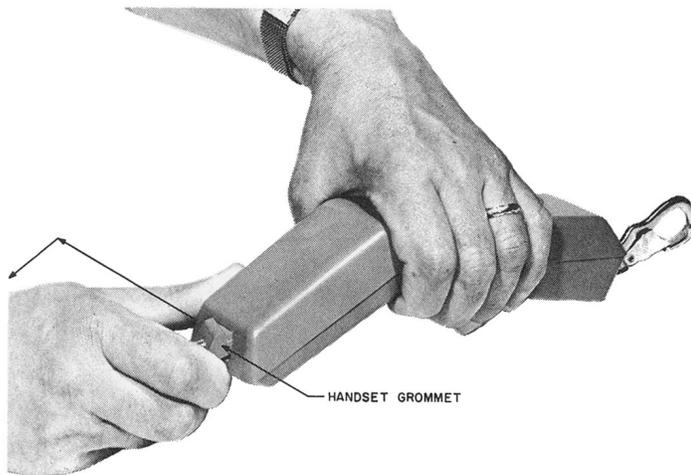
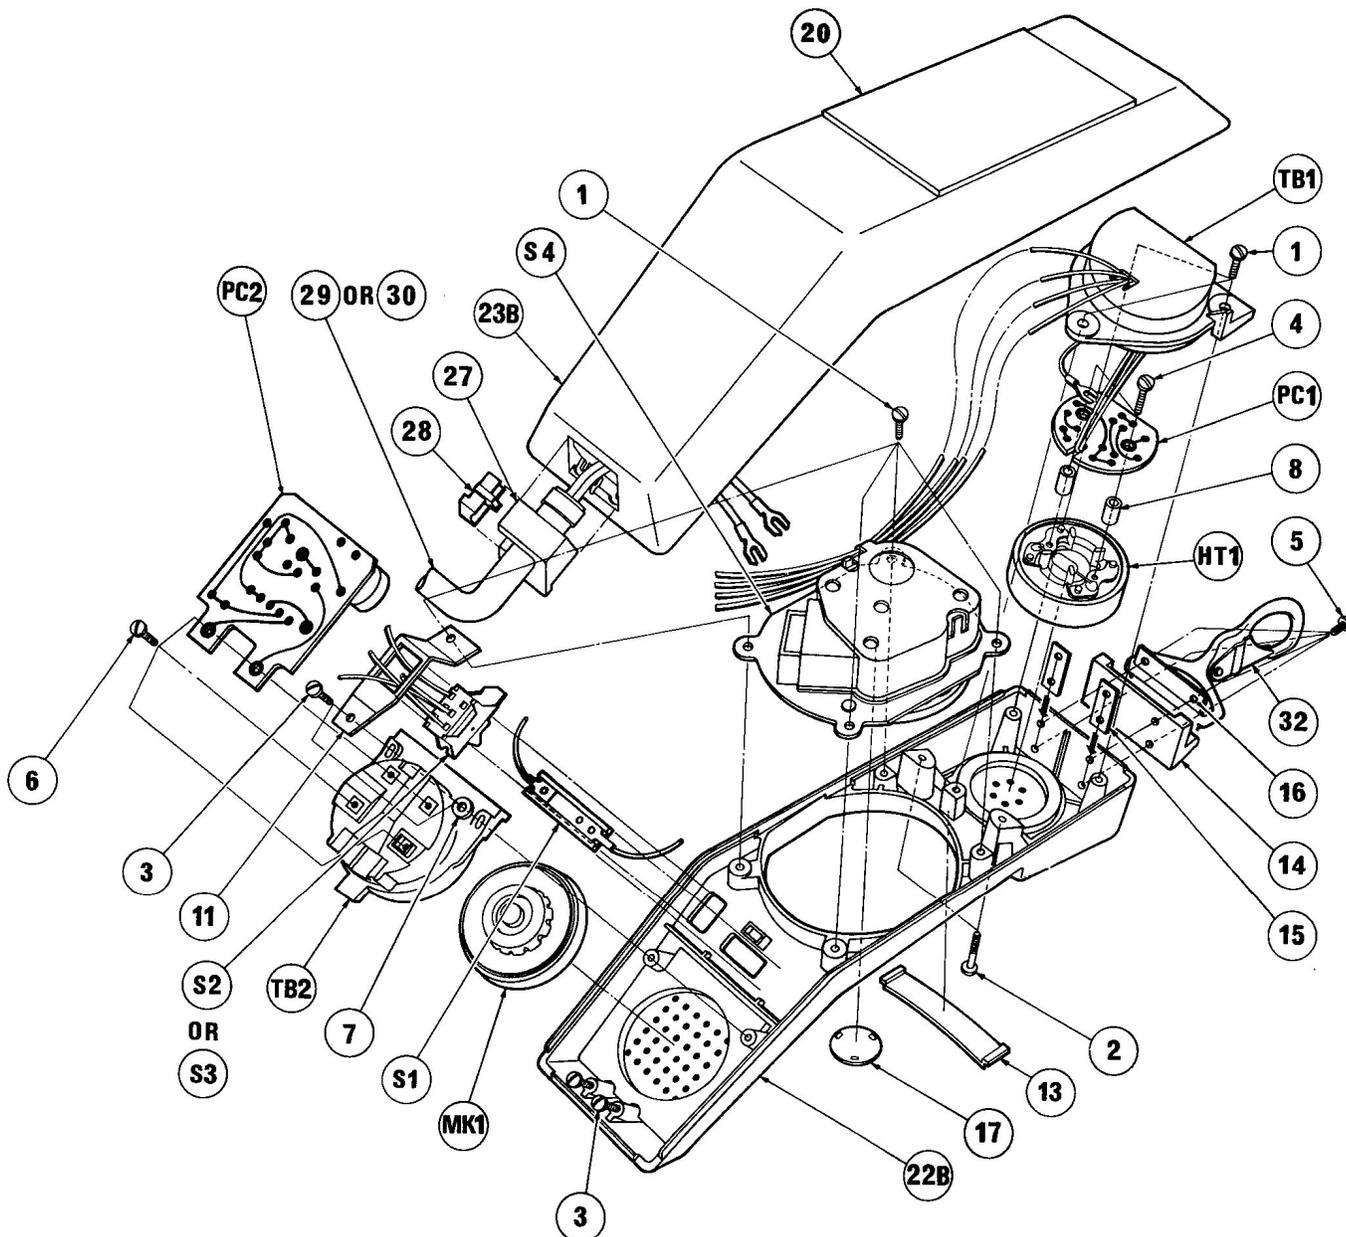

Fig. 8 - Removal of Handset Grommet
Fig. 9 - QSE4 Type Handsets - Assembly of Parts
1.08 Identification and assembly of parts is shown in Fig. 9 and Table C.
### 4.02 Disassembly of Handset (see Fig. 8 and 9) (item Nos. refer to Fig. 9).
(1) To remove the card retainer window (item 13), insert the tip of an NS-16750 L3 Releaser into the small slotted hole at the edge of the window. Ensure that the tip does not enter the hole by more than one-eighth of an inch, as an underlying screw may hinder the lateral motion of the releaser. Apply a slight lateral pressure to the handle of the releaser. The housing projection provides a fulcrum and this will bow the window upward so that its edges may be grasped with the fingertips of the other hand to spring it out.
(2) Remove the handset line cord grommet (items 27 and 28, Fig. 9) by turning the handset face down and pushing the cord into the grommet to release the pressure on the inside of the grommet, then exerting a lateral pressure, towards the rocker switch and an upward pressure (while retaining the lateral pressure), until the grommet comes out of the housing (see Fig. 8). This grommet is in two pieces.
(3) Once the grommet has been withdrawn, two screws (item 3) are exposed. Loosen these two screws by about three-sixteenths of an inch only, as it is not desirable or necessary to remove them.
(4) Free (do not remove) the two captive screws (item 2) in the card retainer well. Loosen the receiver end, then slide the smooth (back) half of the handset housing back to release this section from the slotted screw holes.
#### 4.10 To Convert QSE4A Type to QSE4B Type (see Fig. 9 and 10):
- 5.01 Table C lists the components of the QSE4 type Handset as shown in Fig. 9.